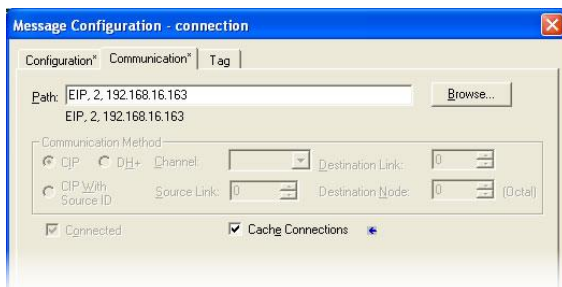

Figure 57: Setting the Communication Path
- d) "Communication" tab settings (refer to Figure 57):